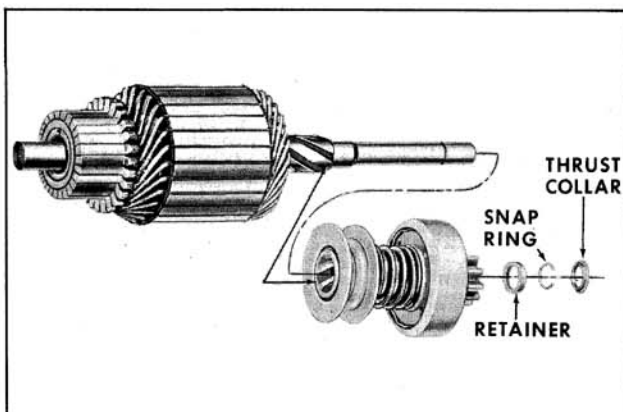

Fig. 13-47 Overrunning Clutch
- a. Remove thrust collar from armature shaft. (Fig. 13-47)
- b. Slide clutch assembly onto armature shaft with pinion away from armature. (Fig. 13-47)